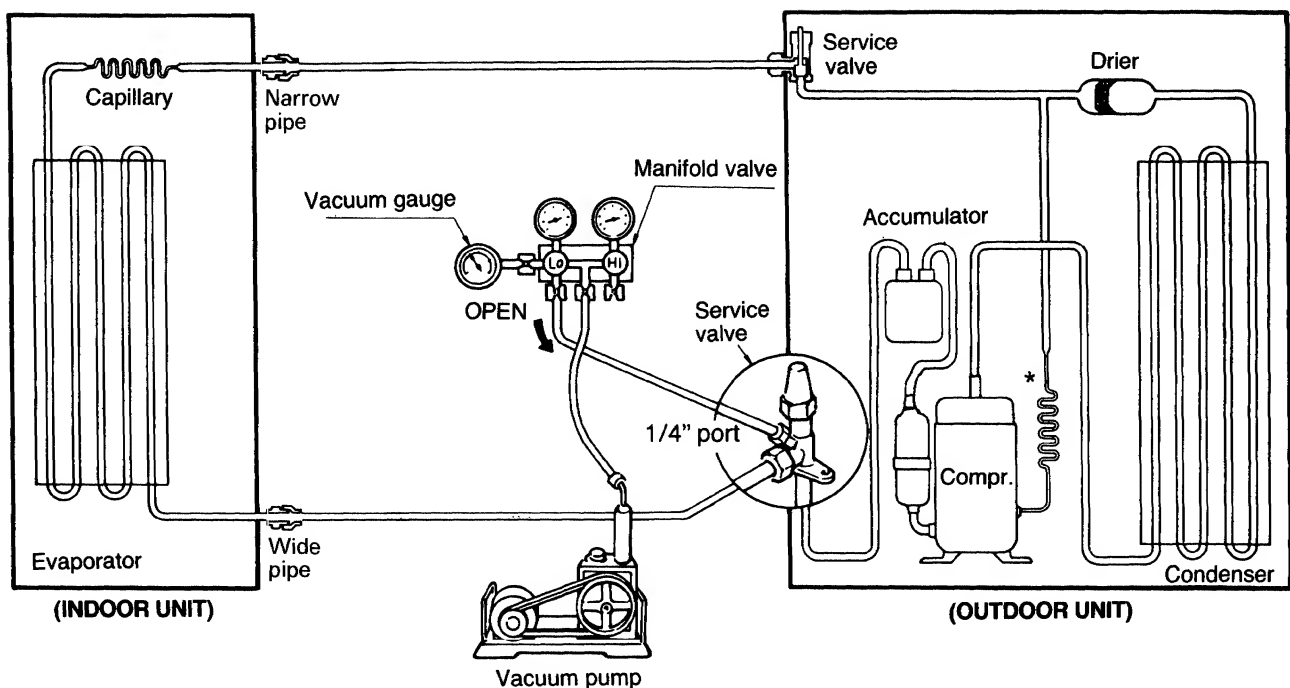

Fig. 9
- b) **If no gasleakage is confirmed, connect both vacuum pump and vacuum gauge to service valve through 1/4" port with a flare nut. See Fig. 9.**